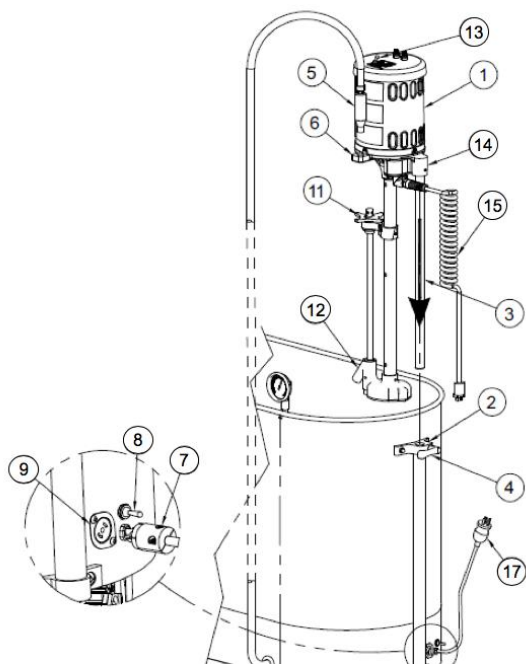
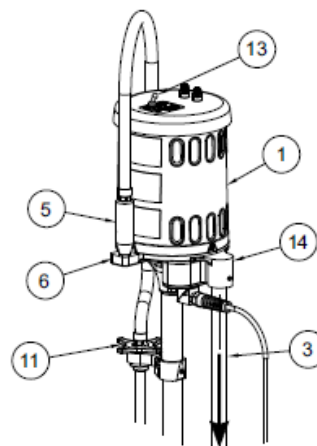

Figure 4: Detail of -SL-SDP Whirlpools
Figure 5: Detail of -SL model without -SDP
2. For -SL models (Figure 5) and -SL-SDP models (Figure 4): Place discharge nozzle (5) into storage socket (6). For -SL-SDP models only: water will flow through hose if discharge nozzle (5) is lower than water level.
3. Turn the pressure control valve handle (11) fully clockwise, then fully counterclockwise to completely lubricate the plunger assembly.
4. For -SL-SDP models only (Figure 4): Insert electrical cord twist-lock plug (7) into socket (9) and turn clockwise a quarter turn to lock in place.
5. Turn the turbine power switch (13) off.
- a. Place discharge nozzle (5) into floor drain or sink.
- b. Turn the drain pump switch (18, Figure 4) on. When water stops discharging from the nozzle, turn the drain pump switch off.
- c. Some residual water will remain in the drain pump. To remove this water, lower the discharge nozzle (5) to the floor and clean with a towel or sponge.
- e. Place discharge nozzle (5) into socket (6). Note: water will flow through hose if discharge nozzle (5) is lower than water level.